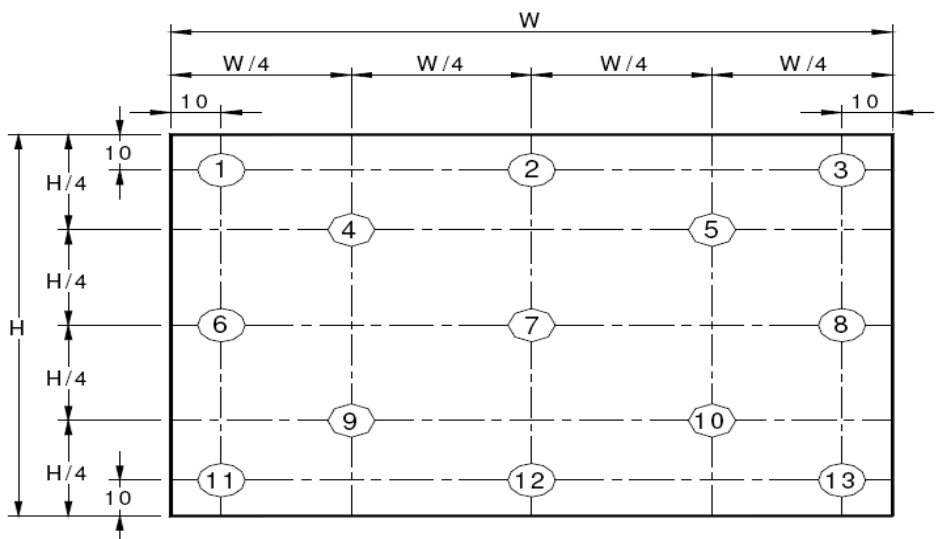

Figure 9. Uniformity Measurement Locations (13 points)
<p>Notes :</p> <ol style="list-style-type: none"> Viewing angle is the angle at which the contrast ratio is greater than 10. The viewing angles are determined for the horizontal or 3, 9 o'clock direction and the vertical or 6, 12 o'clock direction with respect to the optical axis which is normal to the LCD surface (see Figure 7). Contrast measurements shall be made at viewing angle of $\Theta = 0$ and at the center of the LCD surface. Luminance shall be measured with all pixels in the view field set first to white, then to the dark (black) state . (see Figure 7) Luminance Contrast Ratio (CR) is defined mathematically. <div style="text-align: center;"> $CR = \frac{\text{Luminance when displaying a white raster}}{\text{Luminance when displaying a black raster}}$ </div> Center Luminance of white is defined as luminance values of 5 point average across the LCD surface. Luminance shall be measured with all pixels in the view field set first to white. This measurement shall be taken at the locations shown in Figure 8 for a total of the measurements per display. The White luminance uniformity on LCD surface is then expressed as : $\Delta Y = \text{Minimum Luminance of 5(or 13) points} / \text{Maximum Luminance of 5(or 13) points.}$(see Figure 8 and Figure 9). The color chromaticity coordinates specified in Table 5 shall be calculated from the spectral data measured with all pixels first in red, green, blue and white. Measurements shall be made at the center of the panel. The electro-optical response time measurements shall be made as Figure 10 by switching the “data” input signal ON and OFF. The times needed for the luminance to change from 10% to 90% is T_r, and 90% to 10% is T_r. Cross-Talk of one area of the LCD surface by another shall be measured by comparing the luminance (YA) of a $10 \pm 1\text{mm}$ diameter area, with all display pixels set to gray 127(of 0 to 255), to the luminance (YB) of that same area when any adjacent area is driven dark.The luminance ratio shall not exceed 1:1.05 (See Figure 11).
The White luminance uniformity on LCD surface is then expressed as : $\Delta Y5$ = Minimum Luminance of five points / Maximum Luminance of five points (see Figure 8) , $\Delta Y13$ = Minimum Luminance of 13 points /Maximum Luminance of 13 points (see Figure 9).